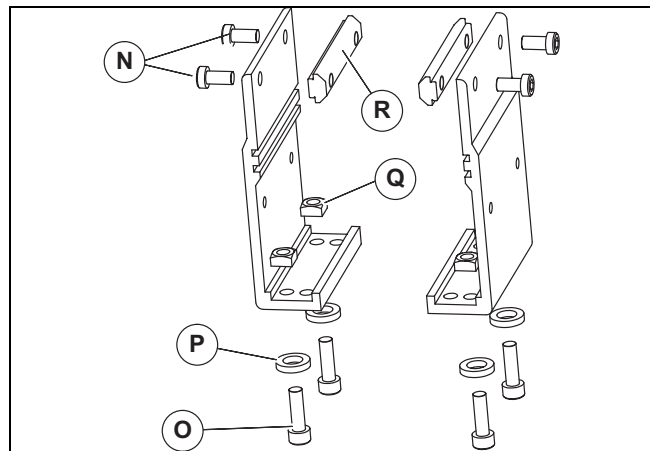

**Figure 6**
- With a 5 mm hex-key wrench, rotate pinion gear (Figure 6, item M) to tension the conveyor belt. Tighten two screws (J) on both sides of conveyor to 80 in-lb (9 Nm). For proper tensioning, refer to “Conveyor Belt Tensioning” on page 10.